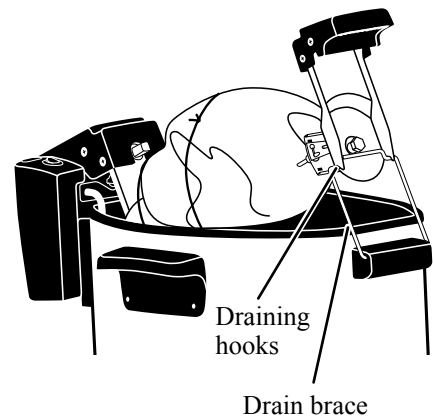

Fig. 33
Step 7 Lift the skewered turkey using the pivot and lifting handles. Position the rotisserie over the preheated fryer. Lower the pivot handle, the one with the ProFry™ logo, into the recessed area on the control panel (Fig. 28, page 13). Once the pivot handle is securely resting in the recessed area, carefully lower the lifting handle and rest the draining hooks on the drain brace (Fig. 33).
Step 4 Raise the lifting handle with one hand and use your other hand to lift the drain brace so it is resting against the fryer rim. Carefully lower the lifting handle draining hooks onto the drain brace (Fig. 33). This is the drain position. Keep the turkey in this position for approximately 1 to 2 minutes to allow hot oil to drain from the turkey cavity. Meanwhile, line a large clean tray or cookie sheet with paper towels.